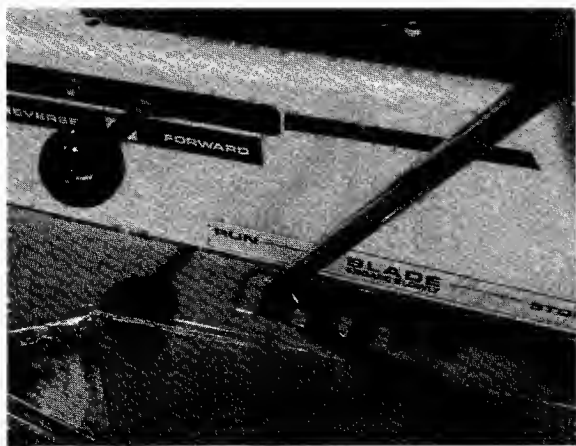

FIG. 11 - LIFT LEVER ADJUSTMENT
**ROUGH TERRAIN MOWING** - With the lift and disengagement lever you may select one of five height settings by moving the lever to your left and back to the desired mowing height (see Fig. 11). Set the individual wheel adjusters so that the wheels clear the ground by  $\frac{1}{4}$ " to prevent scalping.